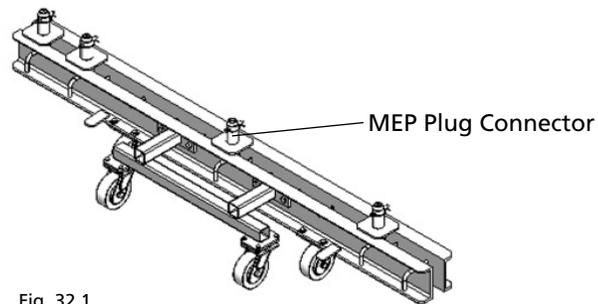

Fig. 32.1
By using the transport waler MEP it is possible to move huge MEP tower units on the slab (Fig. 32.1). The supporting structure should be even and capable of bearing the weight of the MEP units.
The transport waler is 8' (2.4 m) long, has four (4) swivel castors and has a maximum load capacity of 6,600 lbs (3 t). By using the pre-assembled prop connectors (Fig. 32.1) it is easy to adapt the transport waler to the different MEP frame sizes (55, 110, 170 and 220). For moving an unit at least two (2) transport walers are necessary.